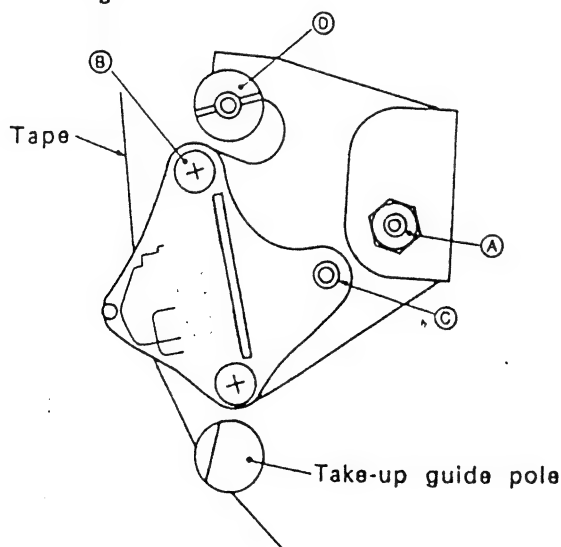

Fig. 7-A
- Turn nut ①, and screws ② and ③ in succession by small and equal increments at a time and adjust for maximum audio output level. With reference to nut ①, adjust azimuth with screws ② and ③ so that small tape wrinkles are not produced at the guide pole, but at the same time, audio output is at maximum and level fluctuations, minimum. It is suggested that you first turn nut ① by a small amount, then turn screws ② and ③ by an equal amount and set for maximum output.
- Carefully and evenly adjust nut ①, and screws ② and ③ to align the Audio/CTL Head height with the tape as shown in Fig.7.